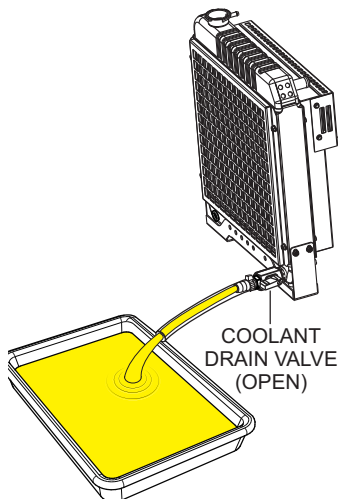

Figure 59. Draining The Engine Coolant
- Place the **coolant drain valve** in the **OPEN** position (Figure 59) and allow the coolant to drain into a suitable container.